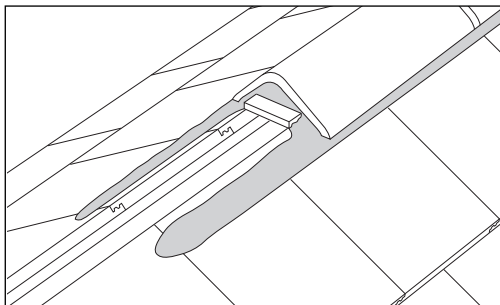

Fig 21 – Bedded ridge with tile slips to support mortar at butt joints
- 1 Edge-bed ridge tiles onto the top course tiles with solid bedding at butt joints (Fig 21).